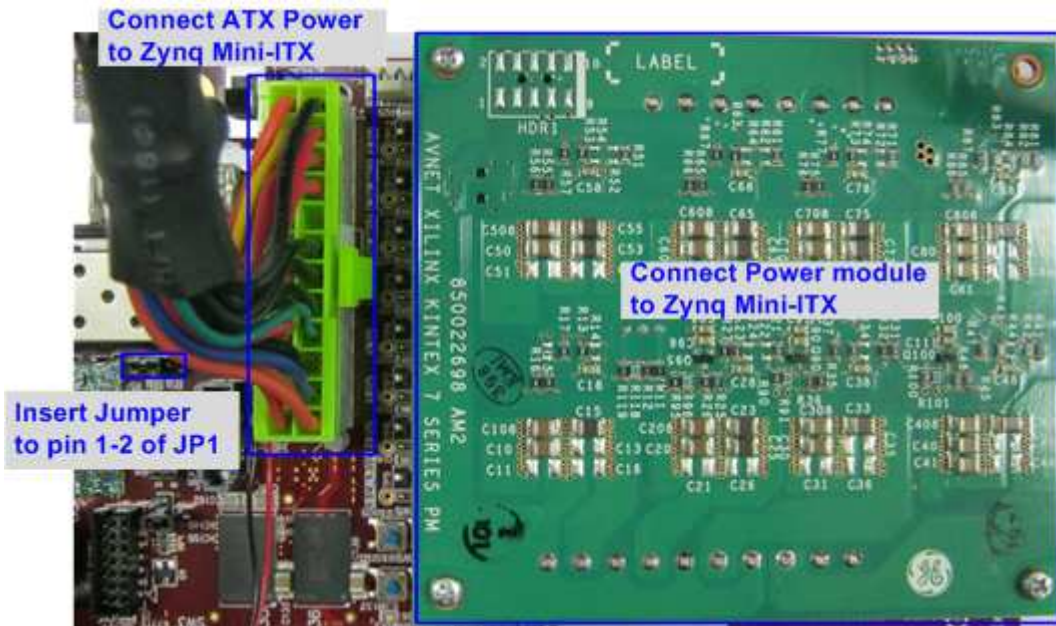

Figure 4-4 The power module installed onto the board
- ii. As shown in Figure 4-4, install a jumper on JP1 pins 1-2 to enable JTAG chain, install the power module onto the board via J8, J9, J10 connectors, and connect ATX power cable to FPGA board via P2 connector.